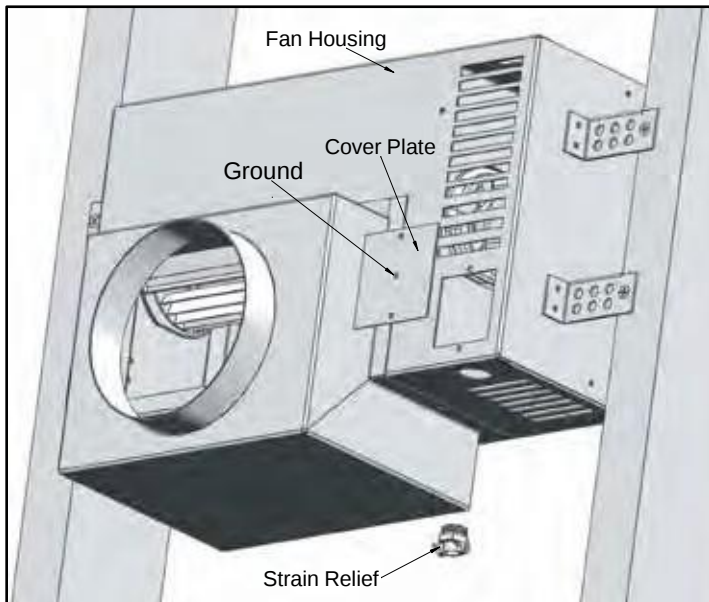

Figure 8: Wiring fan.
- 6. Wire the fan (refer to Figure 8)**